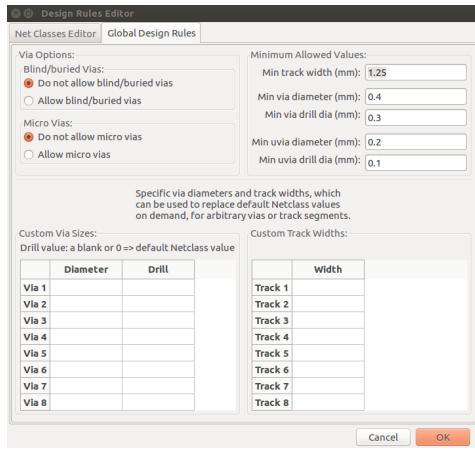

Figure 12.17: Design Rules Editor Window: Global Design Rules
3. Click on Global Design Rules, under Minimum Allowed Values, locate Min track width, erase the default value and enter 1.25 in the data entry field on the right side of it as shown in Fig. 12.17. This will ensure that all tracks placed are of width 1.25mm and that when we perform Design Rules Check, the checks